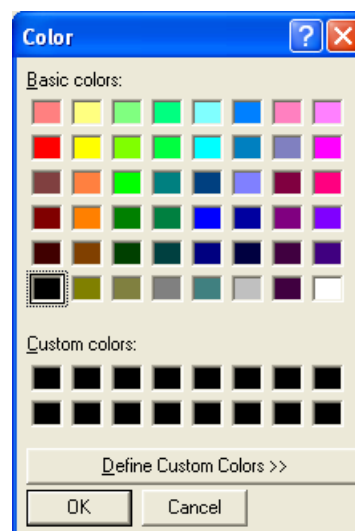

Fig.3-11 Choose color
- ⊕ Color  : To choose pen's “color” click on the color button and it will pop up Fig. 3-11 dialog box.
- ⊕ Edit Text Color  : Text color can be changed by clicking “edit text color” button and it will pop up Fig.3-11 dialog box.
- ⊕ Edit Text Background Color  :Text background color can be changed just by clicking “edit background color” and it will pop up Fig.3-11 dialog box.